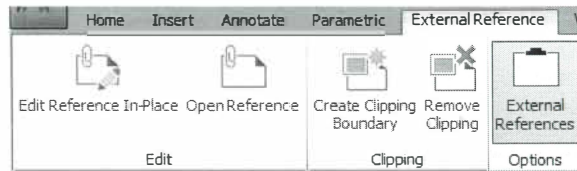

Figure 11-23
- Modification options for drawing reference files include editing the reference, clipping, and access to the External References palette, as shown in Figure 11-23.